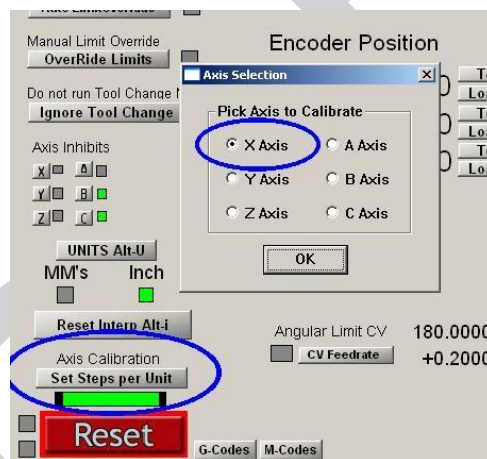

Figure 5-30 Automatic Setting of Steps per Unit
- Figure 5-30 shows the *Set Steps per Unit* button on the **Settings Alt6** screen to initiate the automatic settings process. You will be prompted for the axis that you want to calibrate. Select an axis on the **Pick Axis to Calibrate** pop-up menu and click OK.